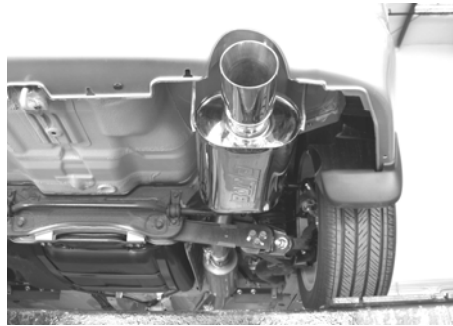

Figure 7
3. Place a clamp over the expanded end of rear muffler assembly and set it into position as shown in figure 7 installing the hangers into the rubber brackets. DO NOT tighten the clamp.